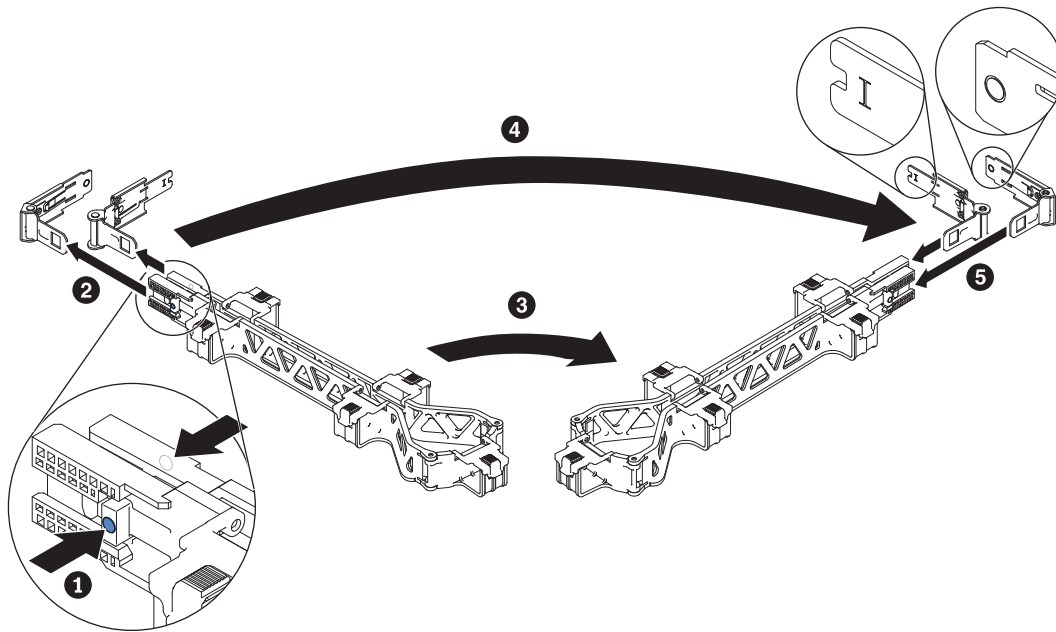

Figure 36. Installing the cable management arm on the opposite side
10. Optional: You can install the cable management arm on the opposite side, as shown in Figure 36 on page 47.